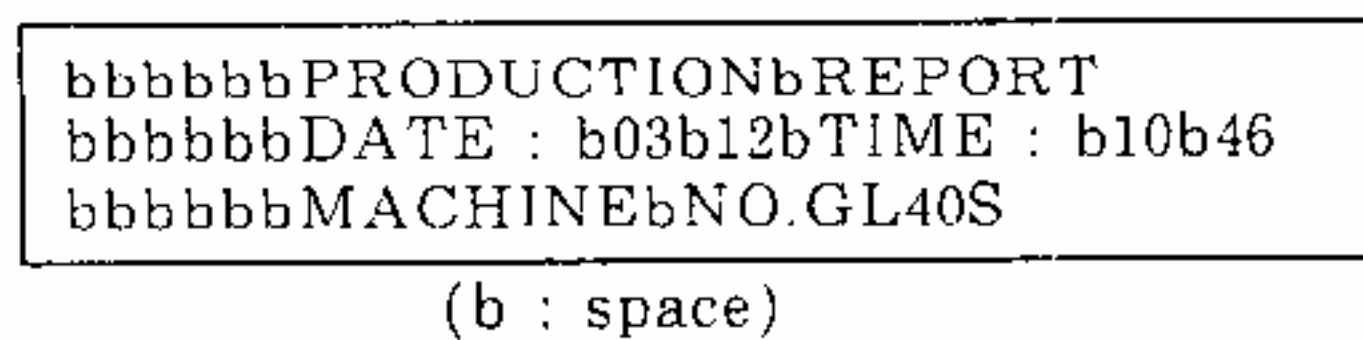

Fig. 5.102 Example of Printing
Data transmission to ASCII devices (a printer in this example) is described here. Suppose the character lines in Fig. 5.102 are to be printed.
(4) Operation
- ① 10005 goes OFF from ON. At this time, coil 50 is ON and the printing in Fig. 5.102 is performed unless COMM command to the same port is not operating.
- ② One scan of coil 52 is ON when printing is completed.